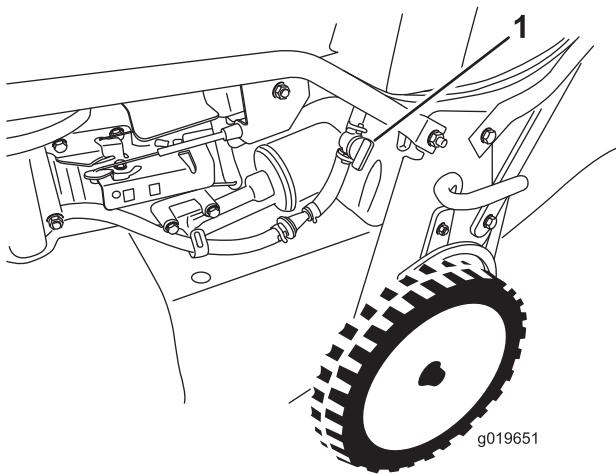

Figure 19
2. Open the fuel shut-off valve (Figure 19).